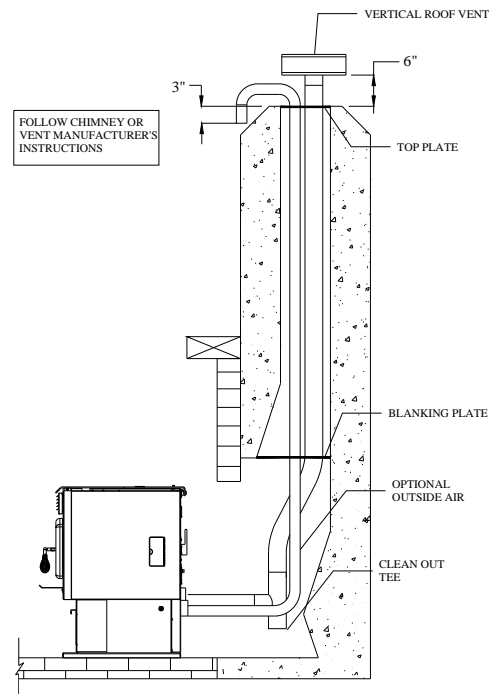

Figure 12
3. Install a blanking plate and the chimney pipe, and if used the outside air pipe, as shown in Figure 12.